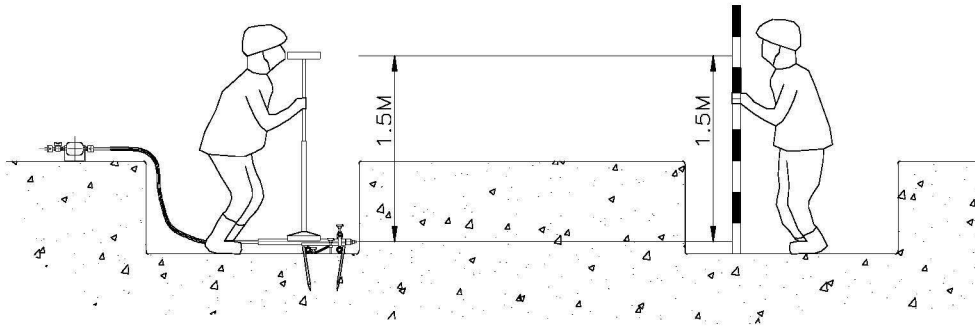

Figure B13 – Aligning and levelling the soil displacement hammer
1. Place the sighting rod in the base of the receive pit (Figure B13). Measure a distance of 1.6m (1.0m if the scope is kept in the closed position) and mark the target stick. This mark is the height of the scope plus 100mm to allow for the height of the cradle. Where the launch depth is deeper adjust measurements accordingly.